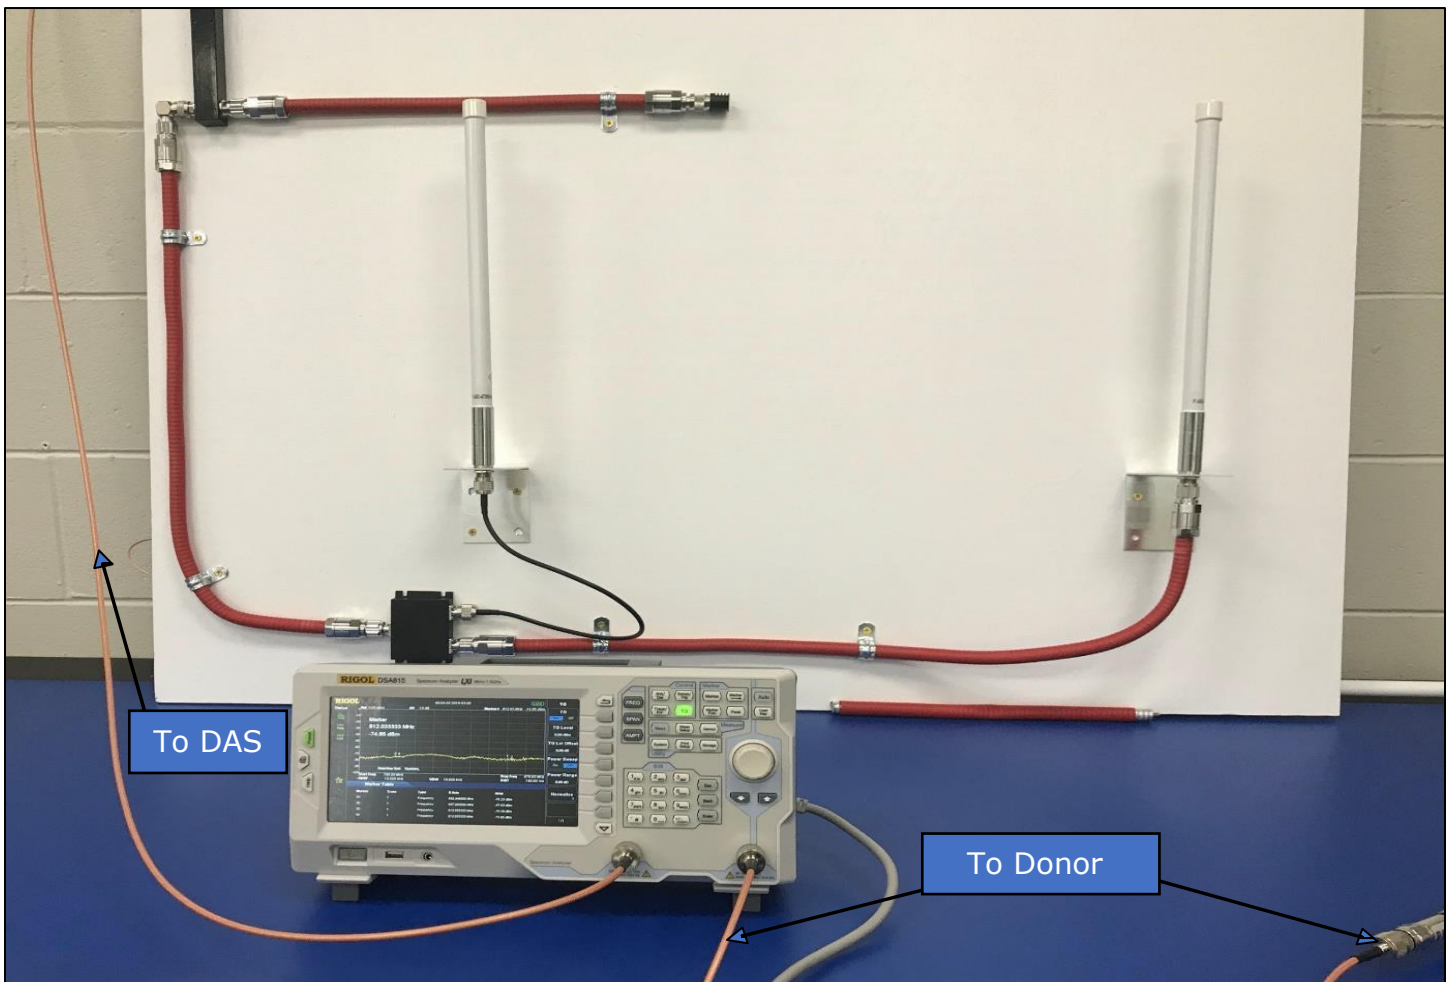

Figure 1.3
2. Connect a second test cable to the "RF Input" on the spectrum analyzer and connect the other end of the test cable to the Donor Antenna cable head-end. (See Figure 1.3)